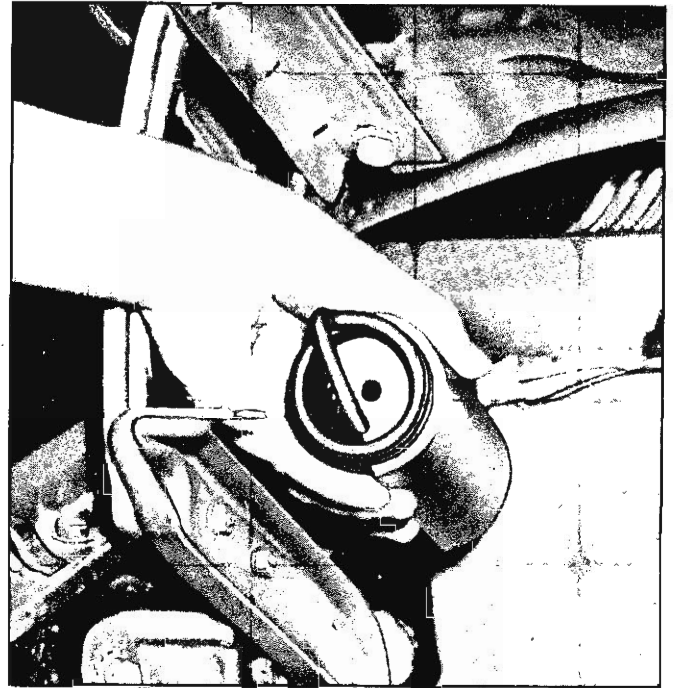

Fig. 112—Removing Spring with J-9559
2. Open hood full while still holding spring (with tool installed) in hand; when hood is near fully opened position, spring may be removed as shown in Figure 112.